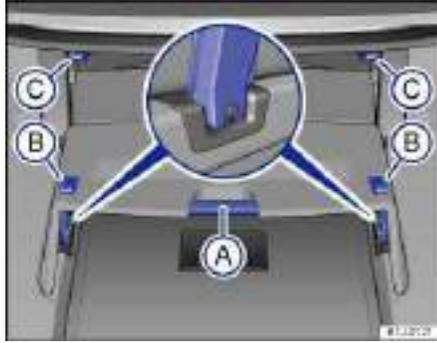

Fig. 97 Lifting up the inside luggage compartment cover.
i In order to open or close the CSC roof, the luggage compartment cover must be down and locked in place in its latches ⇒ fig. 97 (inset).
- Pull the luggage compartment cover up by the handle ⇒ fig. 97 \(A\). A little extra force may be needed to disengage the cover from the latches (magnified view).
- Latch the cover by slipping hooks (B) over tabs (C).
In order to open or close the CSC roof, the luggage compartment cover must be down and locked in place in its latches ⇒ fig. 97 (inset).